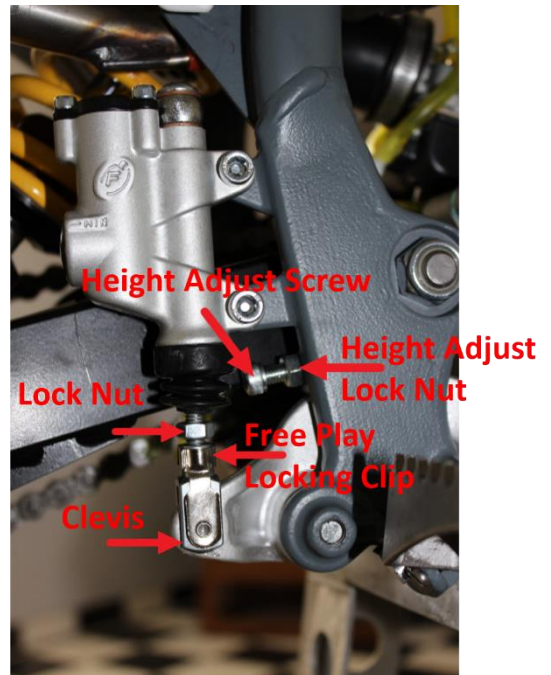

Figure 2b
**Setting rear brake pedal position** (see figure 2b):
To **adjust freeplay** (see figure 2b):